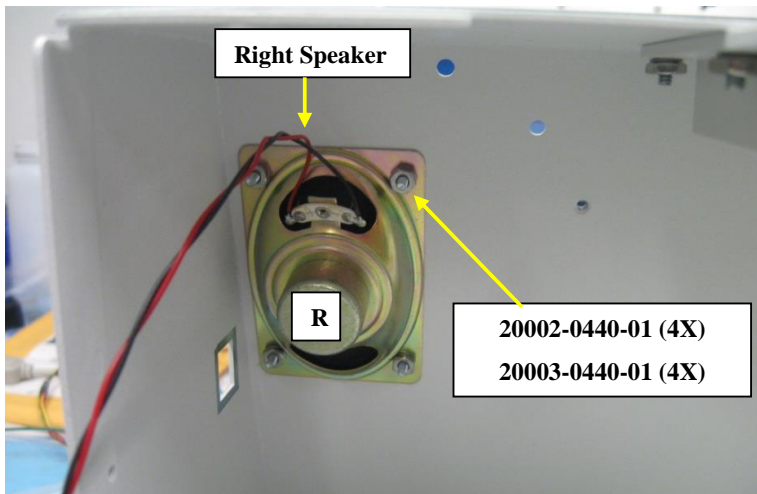

Figure 25
- 12.17. Mount the Right Speaker (made in Step 6) using four (4) #4 Lockwashers (20002-0440-01) and four (4) 4-40 Nuts (20003-0440-01) to the left side of the chassis (viewed from inside) as shown in Figure 25. Keep the wire to the top of the chassis.